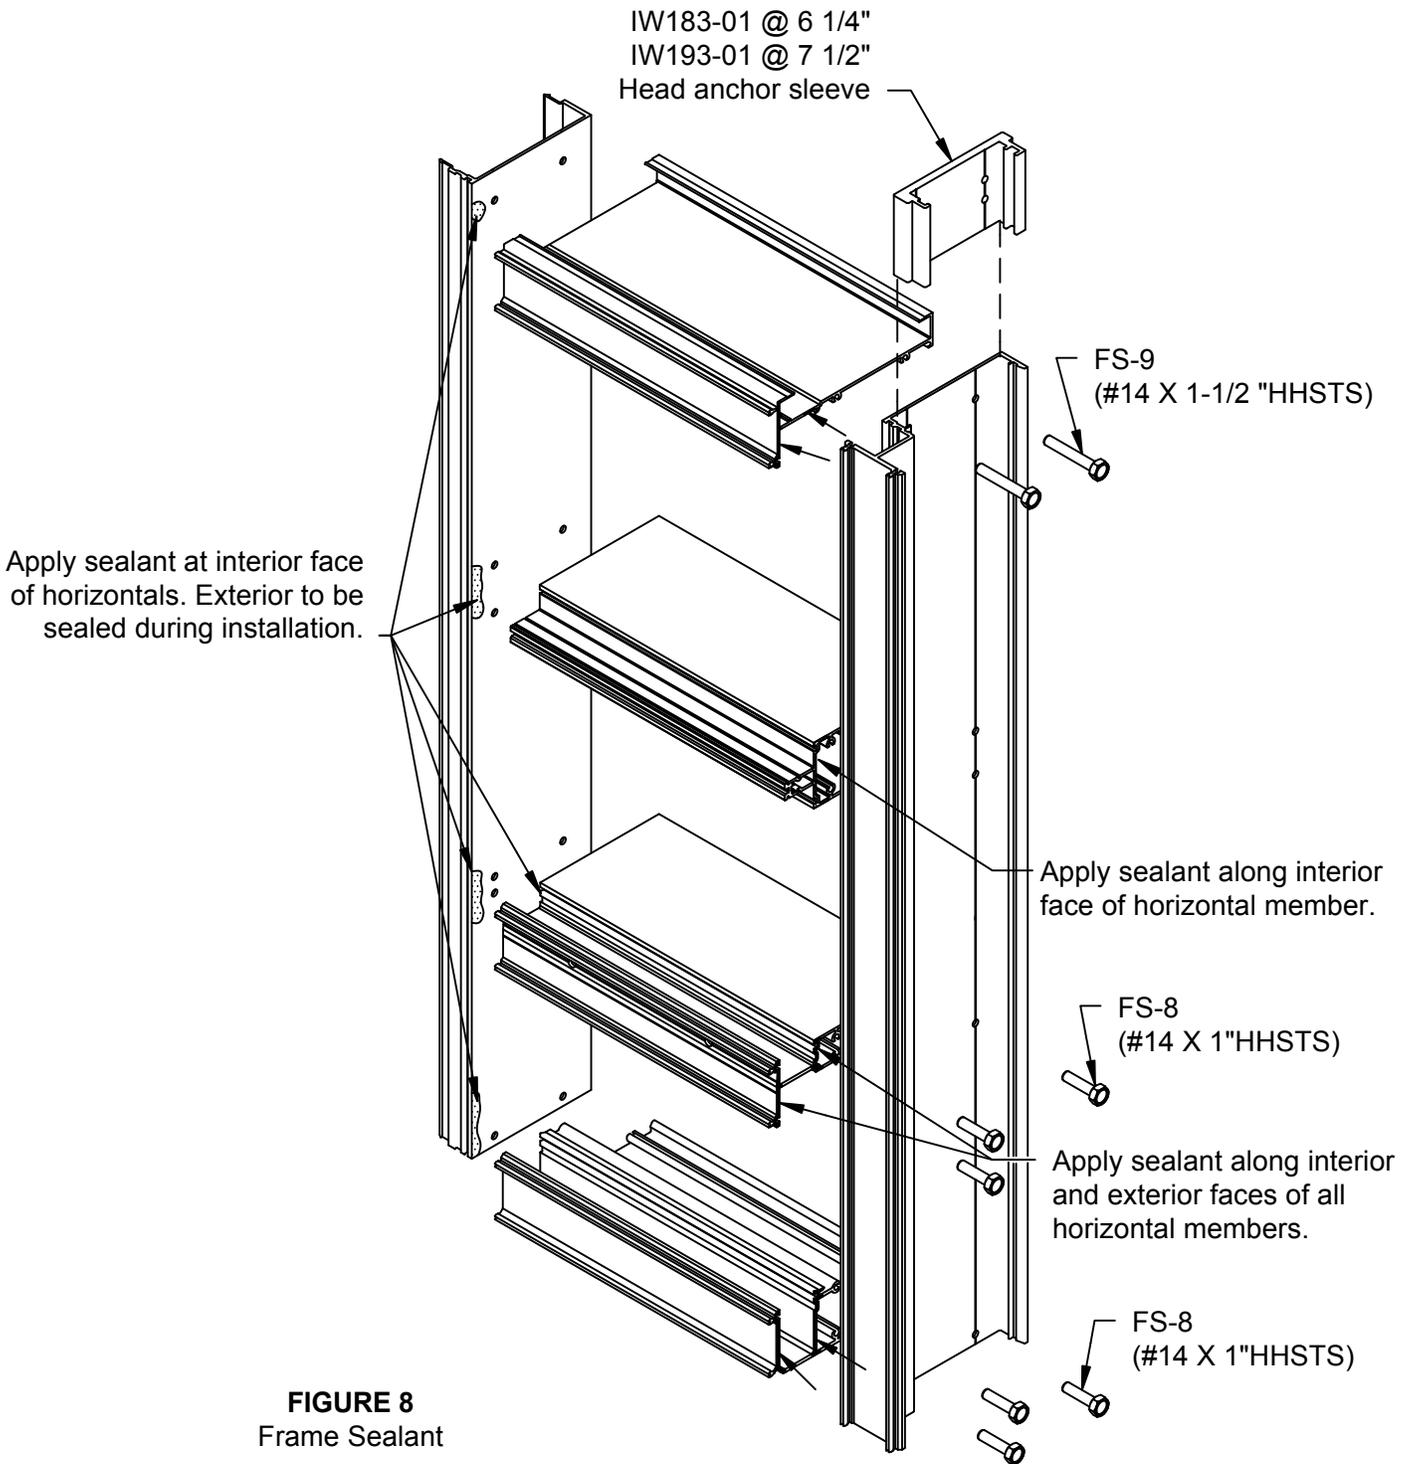
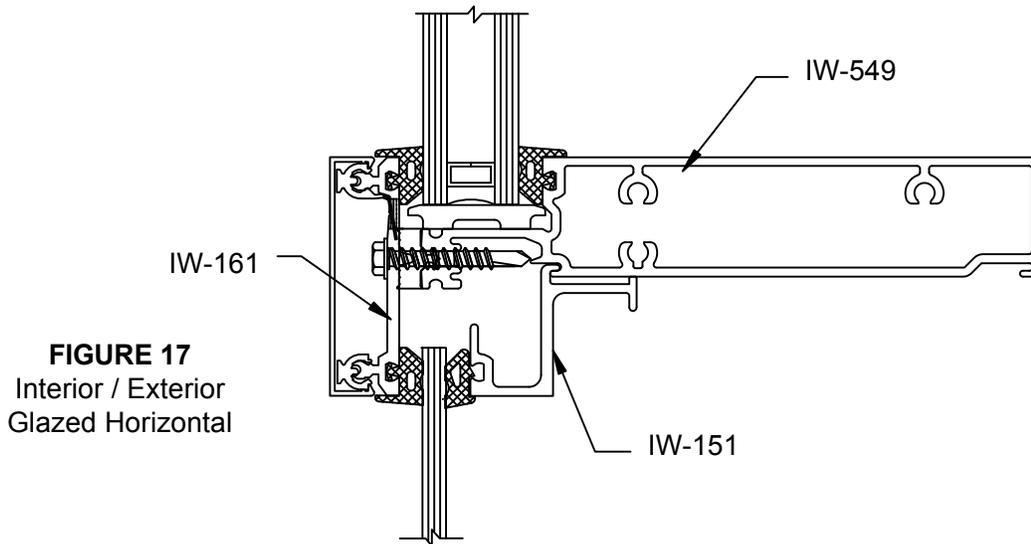
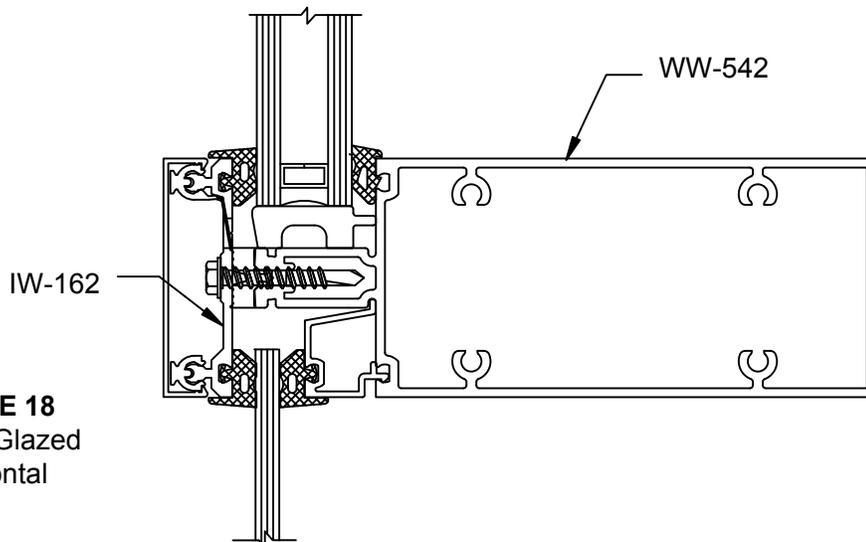

FIGURE 8
FIGURE 17
FIGURE 18
- 2.2 Apply sealant to ends of horizontals prior to attaching to verticals. SEE FIGURE 8, page 10.
- 2.4 Install IW-193-01 (IW-183-01) head anchor sleeve into top of IW-540 (IW-440) or IW-544 (IW-444) mullion. Sleeve to be installed prior to attaching head member. Sleeve attached using FS-9 assemble screws fastened into head extrusion. SEE FIGURE 8, page 10
- 2.5 Attach head to vertical using two FS-9 fasteners. Attach intermediate horizontals and sill members using FS-8 fasteners. SEE FIGURE 8, page 10. Tool excess sealant at horizontal-to-vertical joints. Optional exterior glazed horizontal may require additional fasteners. SEE FIGURE 18, page 17 for optional horizontal information.
3.11 When glazing areas of wall requiring mid span anchors it will be necessary to exterior glaze. Reliance-IG SS offers two exterior glazed horizontals for this purpose. The horizontal shown in FIGURE 17 is for areas where interior and exterior glazing may be required such as at the upper horizontal of an area with mid span anchors or may be used for easy reglazing. The horizontal in FIGURE 18 is for exterior glazed areas only and may also be used at the upper horizontal of areas with mid span anchors.
- 4.8 Exterior glazing will be necessary on lites located adjacent to mid-span anchors and may also be required at building floors. Horizontals with a removable pressure plate must be used at top and bottom of lite to allow for exterior glazing. See FIGURE 17 & 18, page 17. If exterior glazing SSG system, WW-300 bridges will be installed at each horizontal. See FIGURES 33,34 & 35, pages 30 & 31.